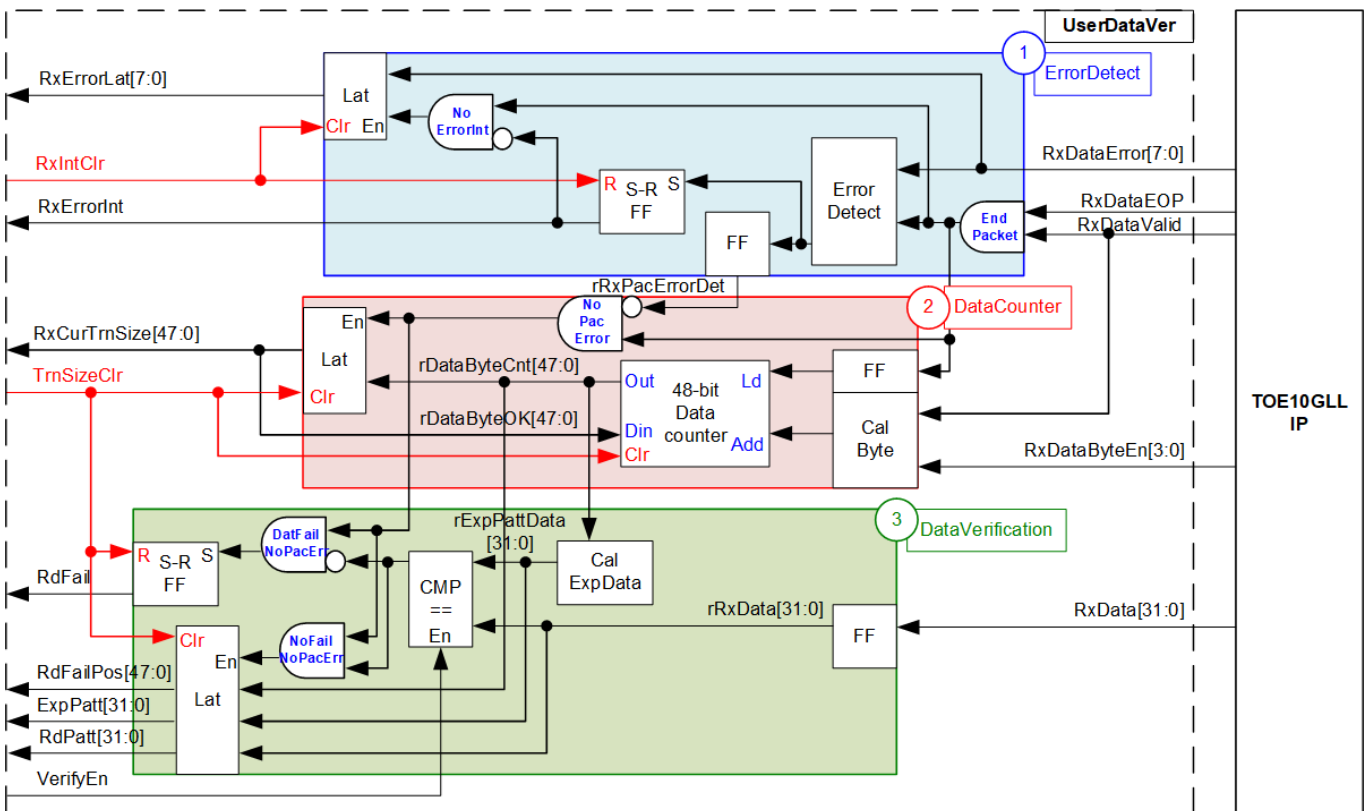

Figure 2-9 UserDataVer block
As shown in Figure 2-9, UserDataVer has three operations, i.e., Error detection (1) to detect the error from TOE10GLL-IP, Data counter (2) to count total number of valid data, and Data verification (3) to verify the received data.